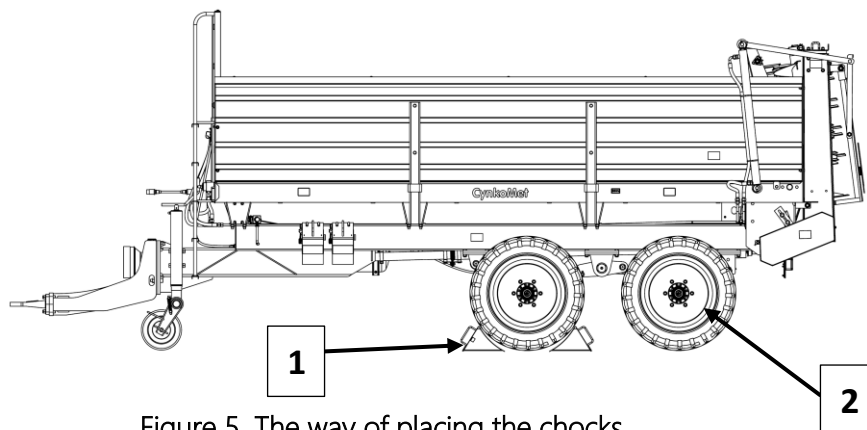

Figure 5. The way of placing the chocks.
- It is forbidden to park on the slopes with a loaded and unsecured machine. Securing is based on stopping with the service brake, parking brake and planting chocks under the wheels. The chocks (1) should be planted only under one wheel (2) (one front wheel and one on the back - Fig. 5).